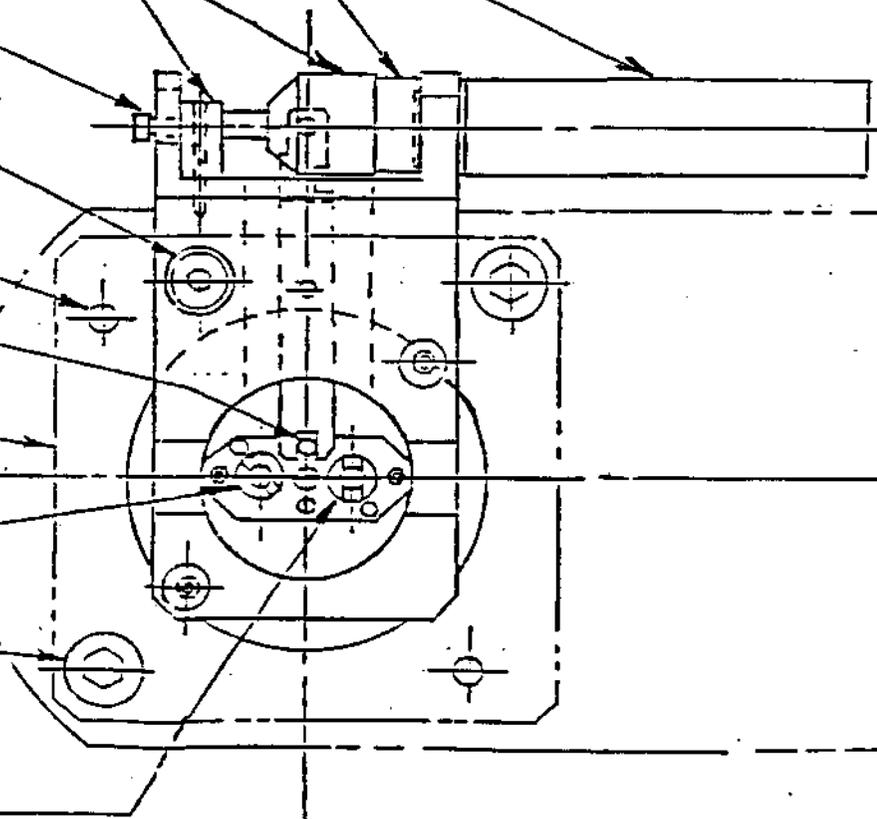

FIGURE 1
2.2 Using a 5/32 hex key, remove the two cap screws (PD, figure 1) that secure mounting plate and beam attenuator, to polarizer mounting arm.
2.3 Using a 3/32-inch hex key, remove buttonhead screw (figure 1) and withdraw the C-Slide assembly.